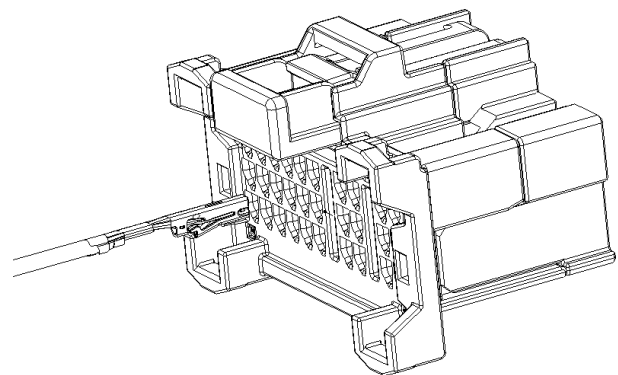

Figure 3
- 3.2.2. The terminated contact must be aligned with the contact cavity at the wire end of the connector and oriented as shown. The contact is oriented toward the secondary lock. See Figure 3. Terminals will only easily go into cavity in one orientation.